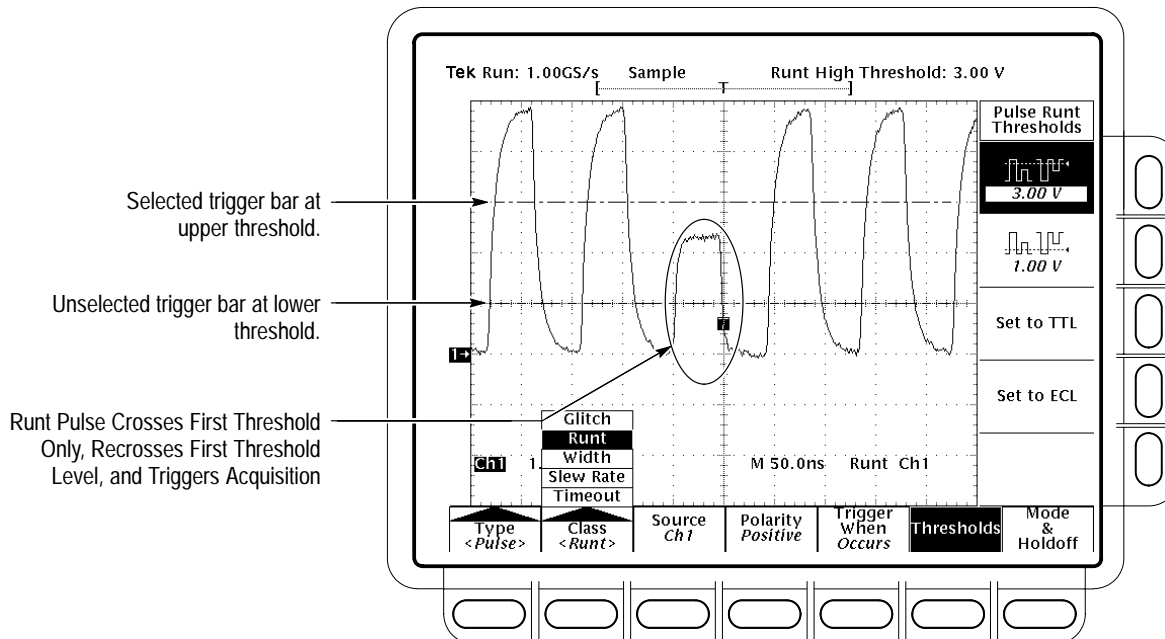

Figure 3–51: Main Trigger Menu — Runt Class
**Select Runt Triggering.** Press **TRIGGER MENU** → **Type** (main) → **Pulse** (pop-up) → **Class** (main) → **Runt** (pop-up). (See Figure 3–51.)
Note the position of the trigger indicator in Figure 3–51. Triggering occurs at the point the pulse returns over the first (lower) threshold going negative without crossing the second threshold level (upper). The polarity selected in the Polarity side menu determines the order that the threshold must be crossed for a runt trigger to occur:
**Select Slew Rate Triggering.** Press **TRIGGER MENU** → **Type** (main) → **Pulse** (pop-up) → **Class** (main) → **Slew Rate** (pop-up). (See Figure 3–52 on page 3–110.)